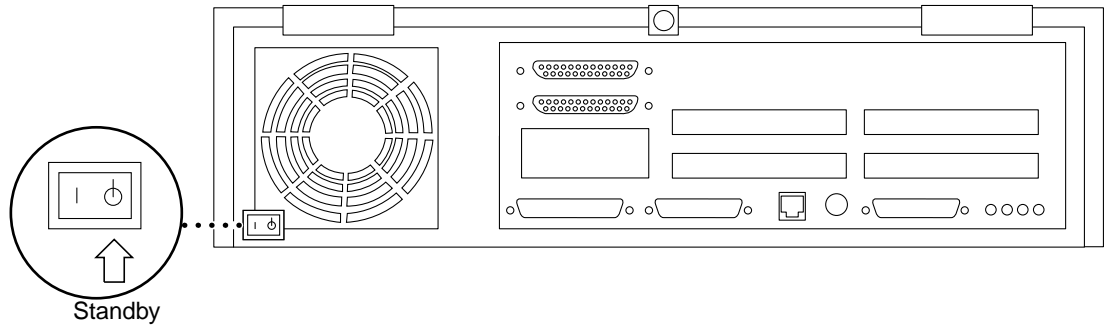

Figure 2-1 Standby Switch
5. **Remove DC power from the system by pressing the Standby side of the power switch on the back panel (Figure 2-1).**